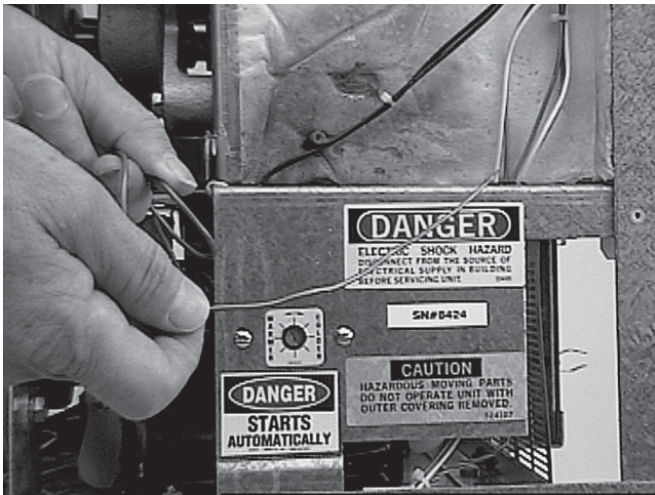

Figure 33. Temperature Control
2. Remove the temperature sensing probe by pulling straight out. Figure 33.